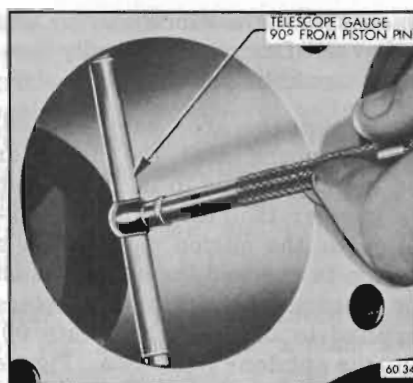

Figure 60-131—Checking Cylinder Bores
1. Expand a telescope gauge to fit the cylinder bore at right angles to the piston pin and between 1-1/2" and 2" from the top. See Figure 60-131.